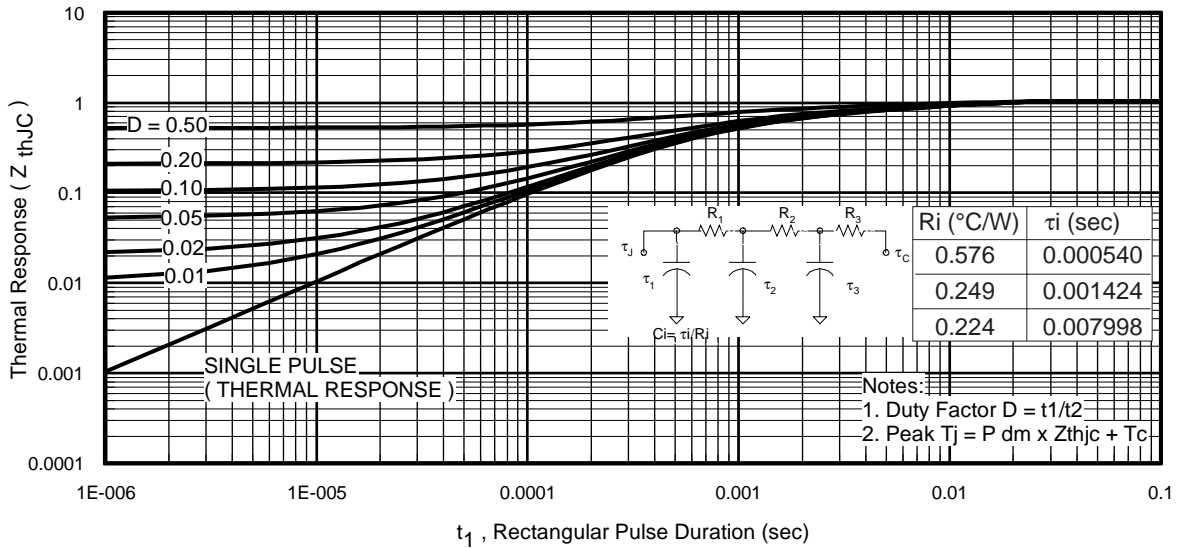

Fig 11. Maximum Effective Transient Thermal Impedance, Junction-to-Case
$Z_{thJC}(D, t_{av})$ = Transient thermal resistance, see figure 11)
- ① Repetitive rating; pulse width limited by max. junction temperature. (See fig. 11).
- ② Limited by T_{Jmax} , starting $T_J = 25^\circ C$, $L = 0.28mH$, $R_G = 25\Omega$, $I_{AS} = 33A$, $V_{GS} = 10V$. Part not recommended for use above this value.
- ③ Pulse width $\leq 1.0ms$; duty cycle $\leq 2\%$.
- ④ C_{OSS} eff. is a fixed capacitance that gives the same charging time as C_{OSS} while V_{DS} is rising from 0 to 80% V_{DSS} .